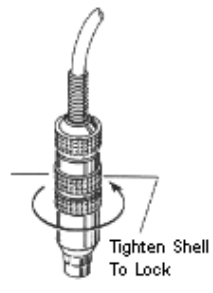

Fig. 2
3. While holding the plug body, tighten the shell. It is not necessary to over-tighten the plug. Once you begin to feel resistance when tightening, you'll only need to tighten it 1/8 of a turn more to lock the plug onto the Quantum Battery. (Fig. 2)